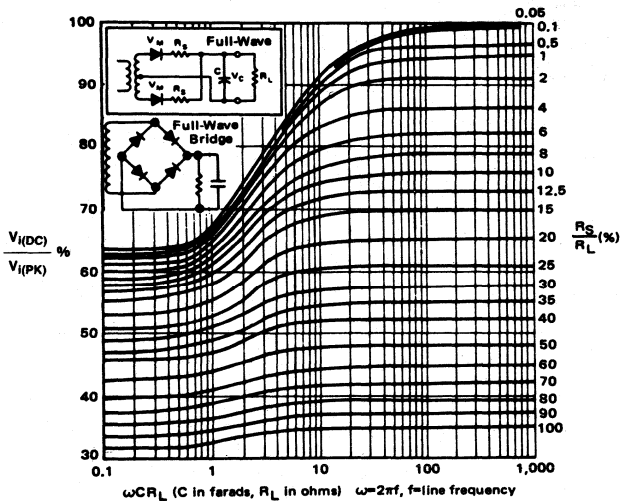

Fig. 2 - Input Voltage (DC/pk) Ratio for Full Wave Rectifier
5. From the graph of fig. 2 for $\frac{V_{i(\text{DC})}}{V_{i(\text{pk})}} = 0,88$ you get: